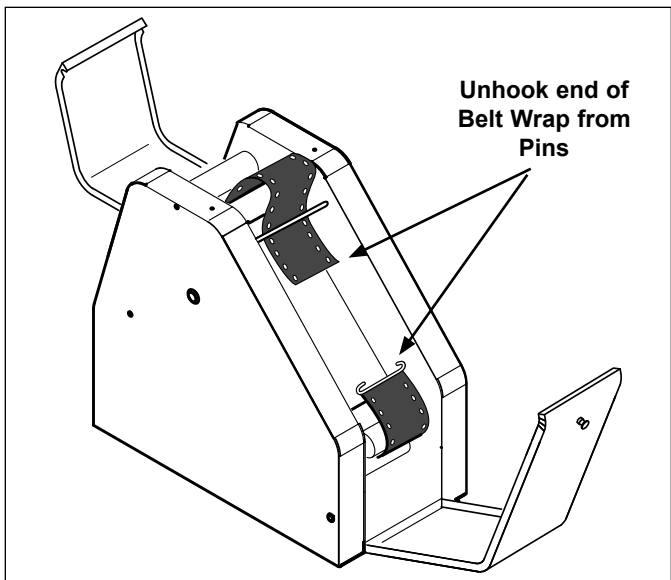

Figure 11. Disconnecting Belt Wraps
7. Locate the Connecting Pin on both Belt Wraps (rotate belts by hand if necessary). Disconnect the ends of the Belt Wraps by sliding one end of the Belt off the pin. See Figure 11.